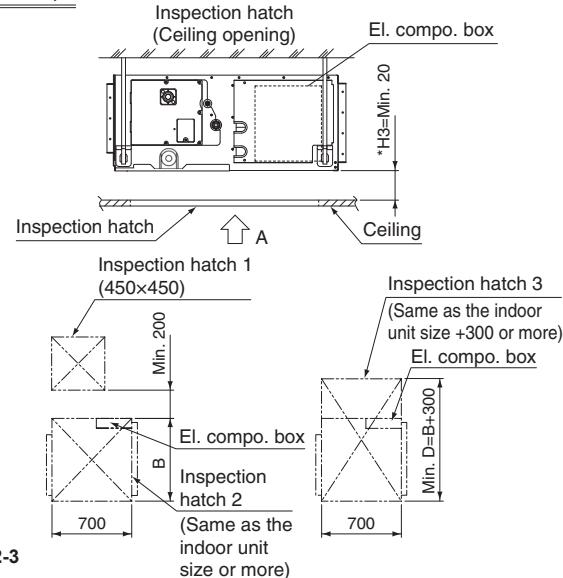

Fig. 2-3
- Inspection hatch 1 (450 × 450) for the el. compo. box and inspection hatch 2 for the lower part of the product (see axial direction view A-1). (Refer to Fig. 2-3)
- Inspection hatch 3 for the lower part of the product and the lower part of the el. compo. box (see axial direction view A-2). (Refer to Fig. 2-3)